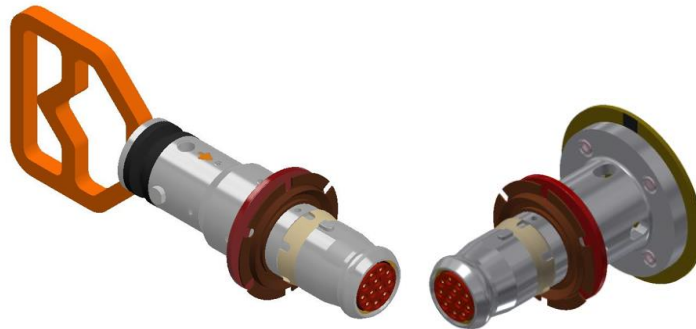

Figure 28 ROV-type Subsea Environment Caps (red-coloured disc)
- Subsea Environment Cap: Provides mechanical protection to the receptacle connector (male pins) **including** corrosion protection of the exposed pins. This is a **non-electrical** cap. To be used where the receptacle connector will be left un-mated for any length of time. Subsea Environment Caps can be identified by their red-coloured disc and labelled 'zero volts' (Figure 28 and Figure 30).